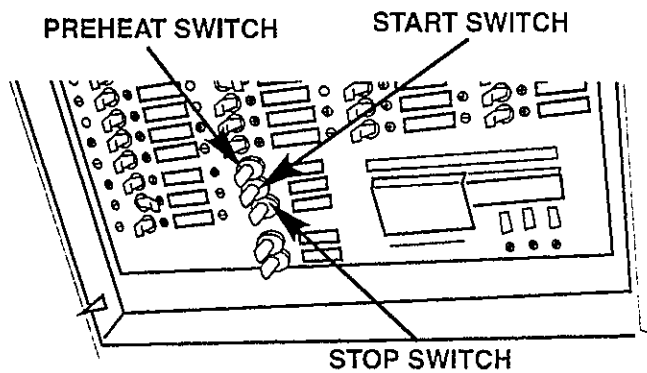

Figure 3-18 Master Control Panel
7. See Figure 3-18. At the Master Control Panel in the main cabin, turn all 120/220V breaker switches off. Set the SHORE circuit breakers to OFF. Wait 2 minutes and then slide the cover on the selector switch over the SHORE circuit breakers.
8. See Figure 3-18. Set and hold the PREHEAT switch to on for 10 to 30 seconds, depending on the outside air temperature (longer during colder temperatures).